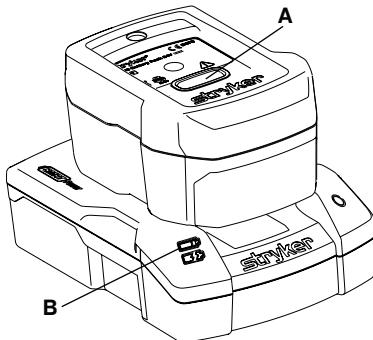

Figure 50 – Charging the **SMRT** Pak
To charge the **SMRT** Pak (Figure 50):
- The **SMRT** charger LED indicator (B) will flash green while charging (Figure 50). The optimum charge time is two hours.
- When the **SMRT** Pak is charged and ready for use, the **SMRT** charger LED indicator (B) turns to solid green.
2. Press the red release button (A) (Figure 50) and slide the **SMRT** Pak to release the charged and ready **SMRT** Pak from the **SMRT** charger.